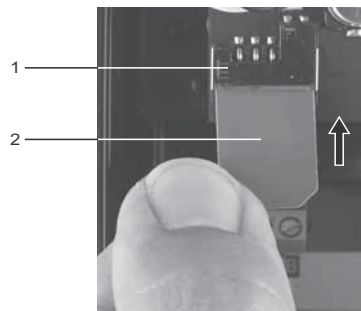

Fig. 14 Inserting the SIM card
3. Insert the SIM card into CIM 260. See fig. 14.
The connectors on the SIM card must face inwards towards CIM 260. See fig. 14.